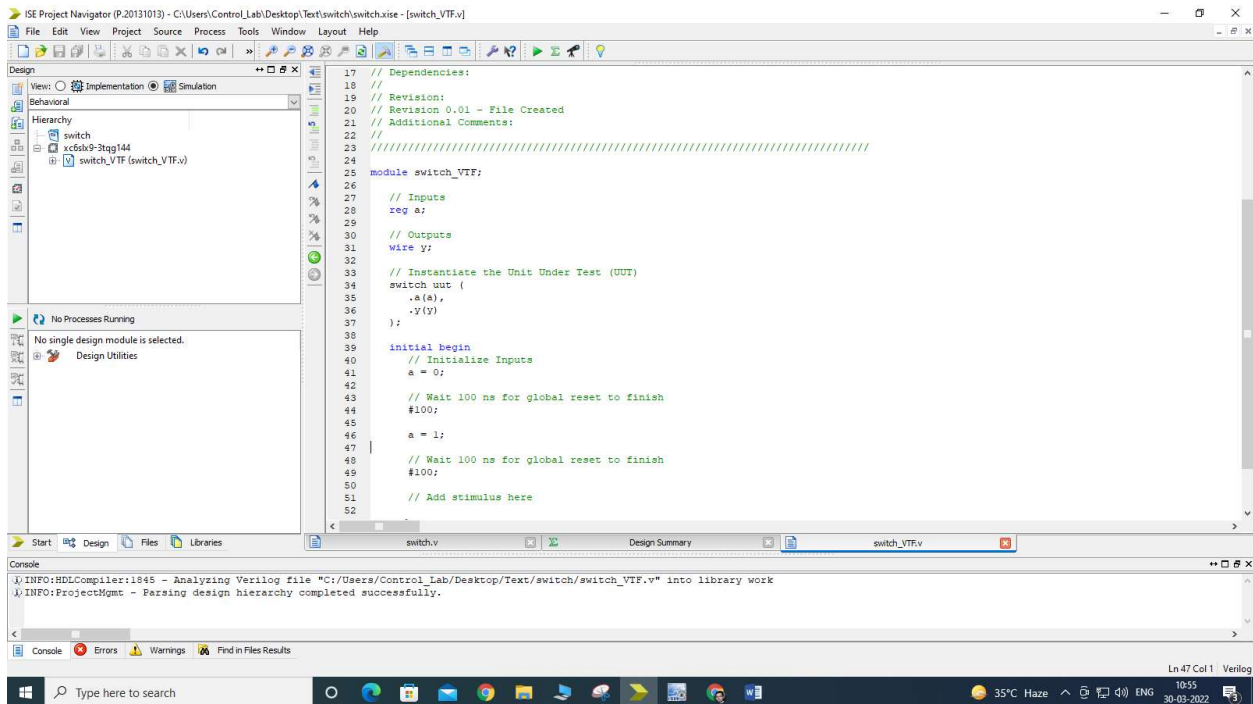

Fig 1.18: Complete Test bench
20. Give different input values for 'a' after 100 units of time delay. After writing the input combinations for 'a' save the code (Fig 1.18).